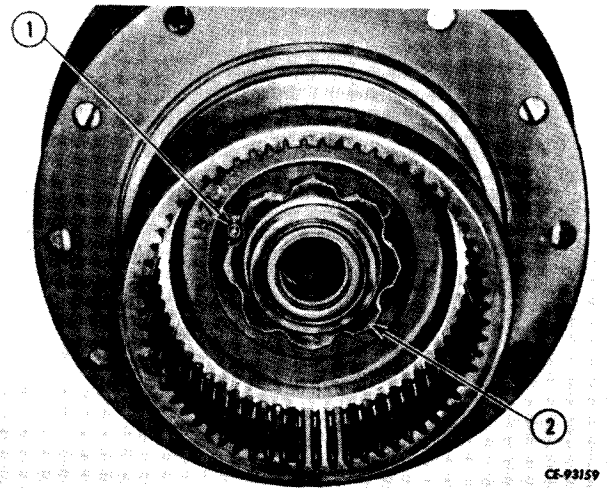

Figure 6-6
Remove cotter pin and cap screw (1, Fig. 6-6) that hold bearing adjusting nut (2) in position.